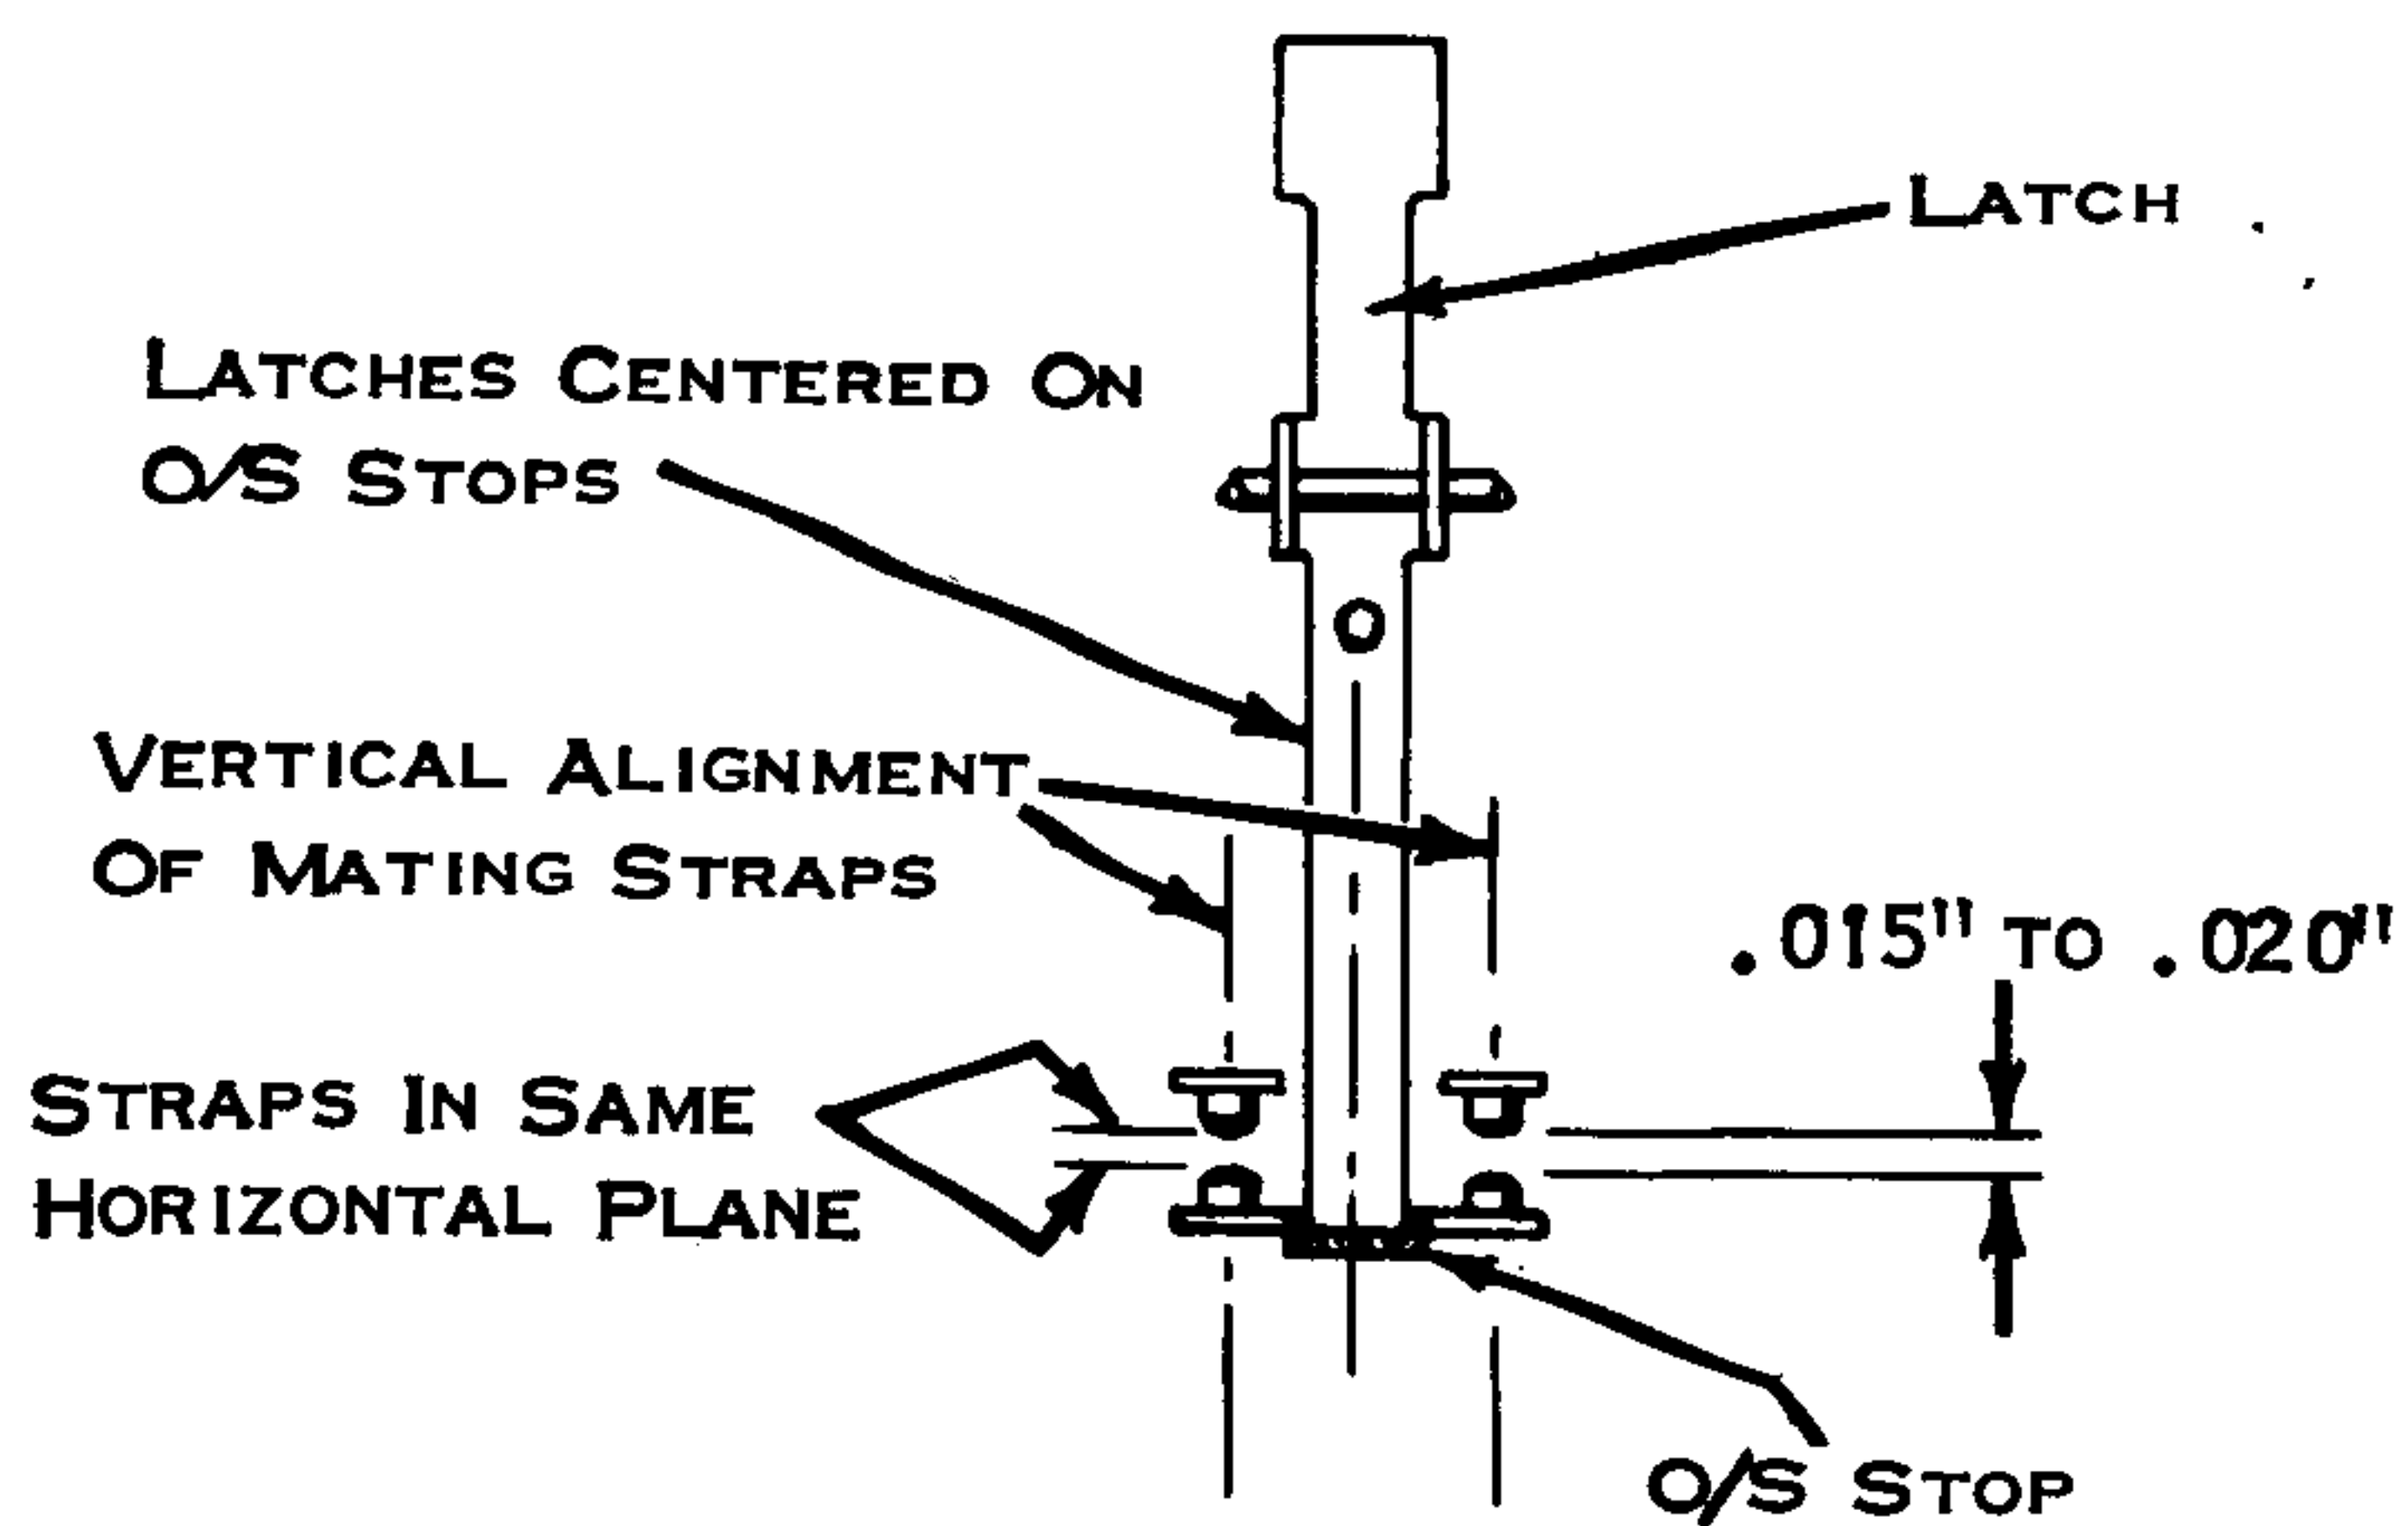
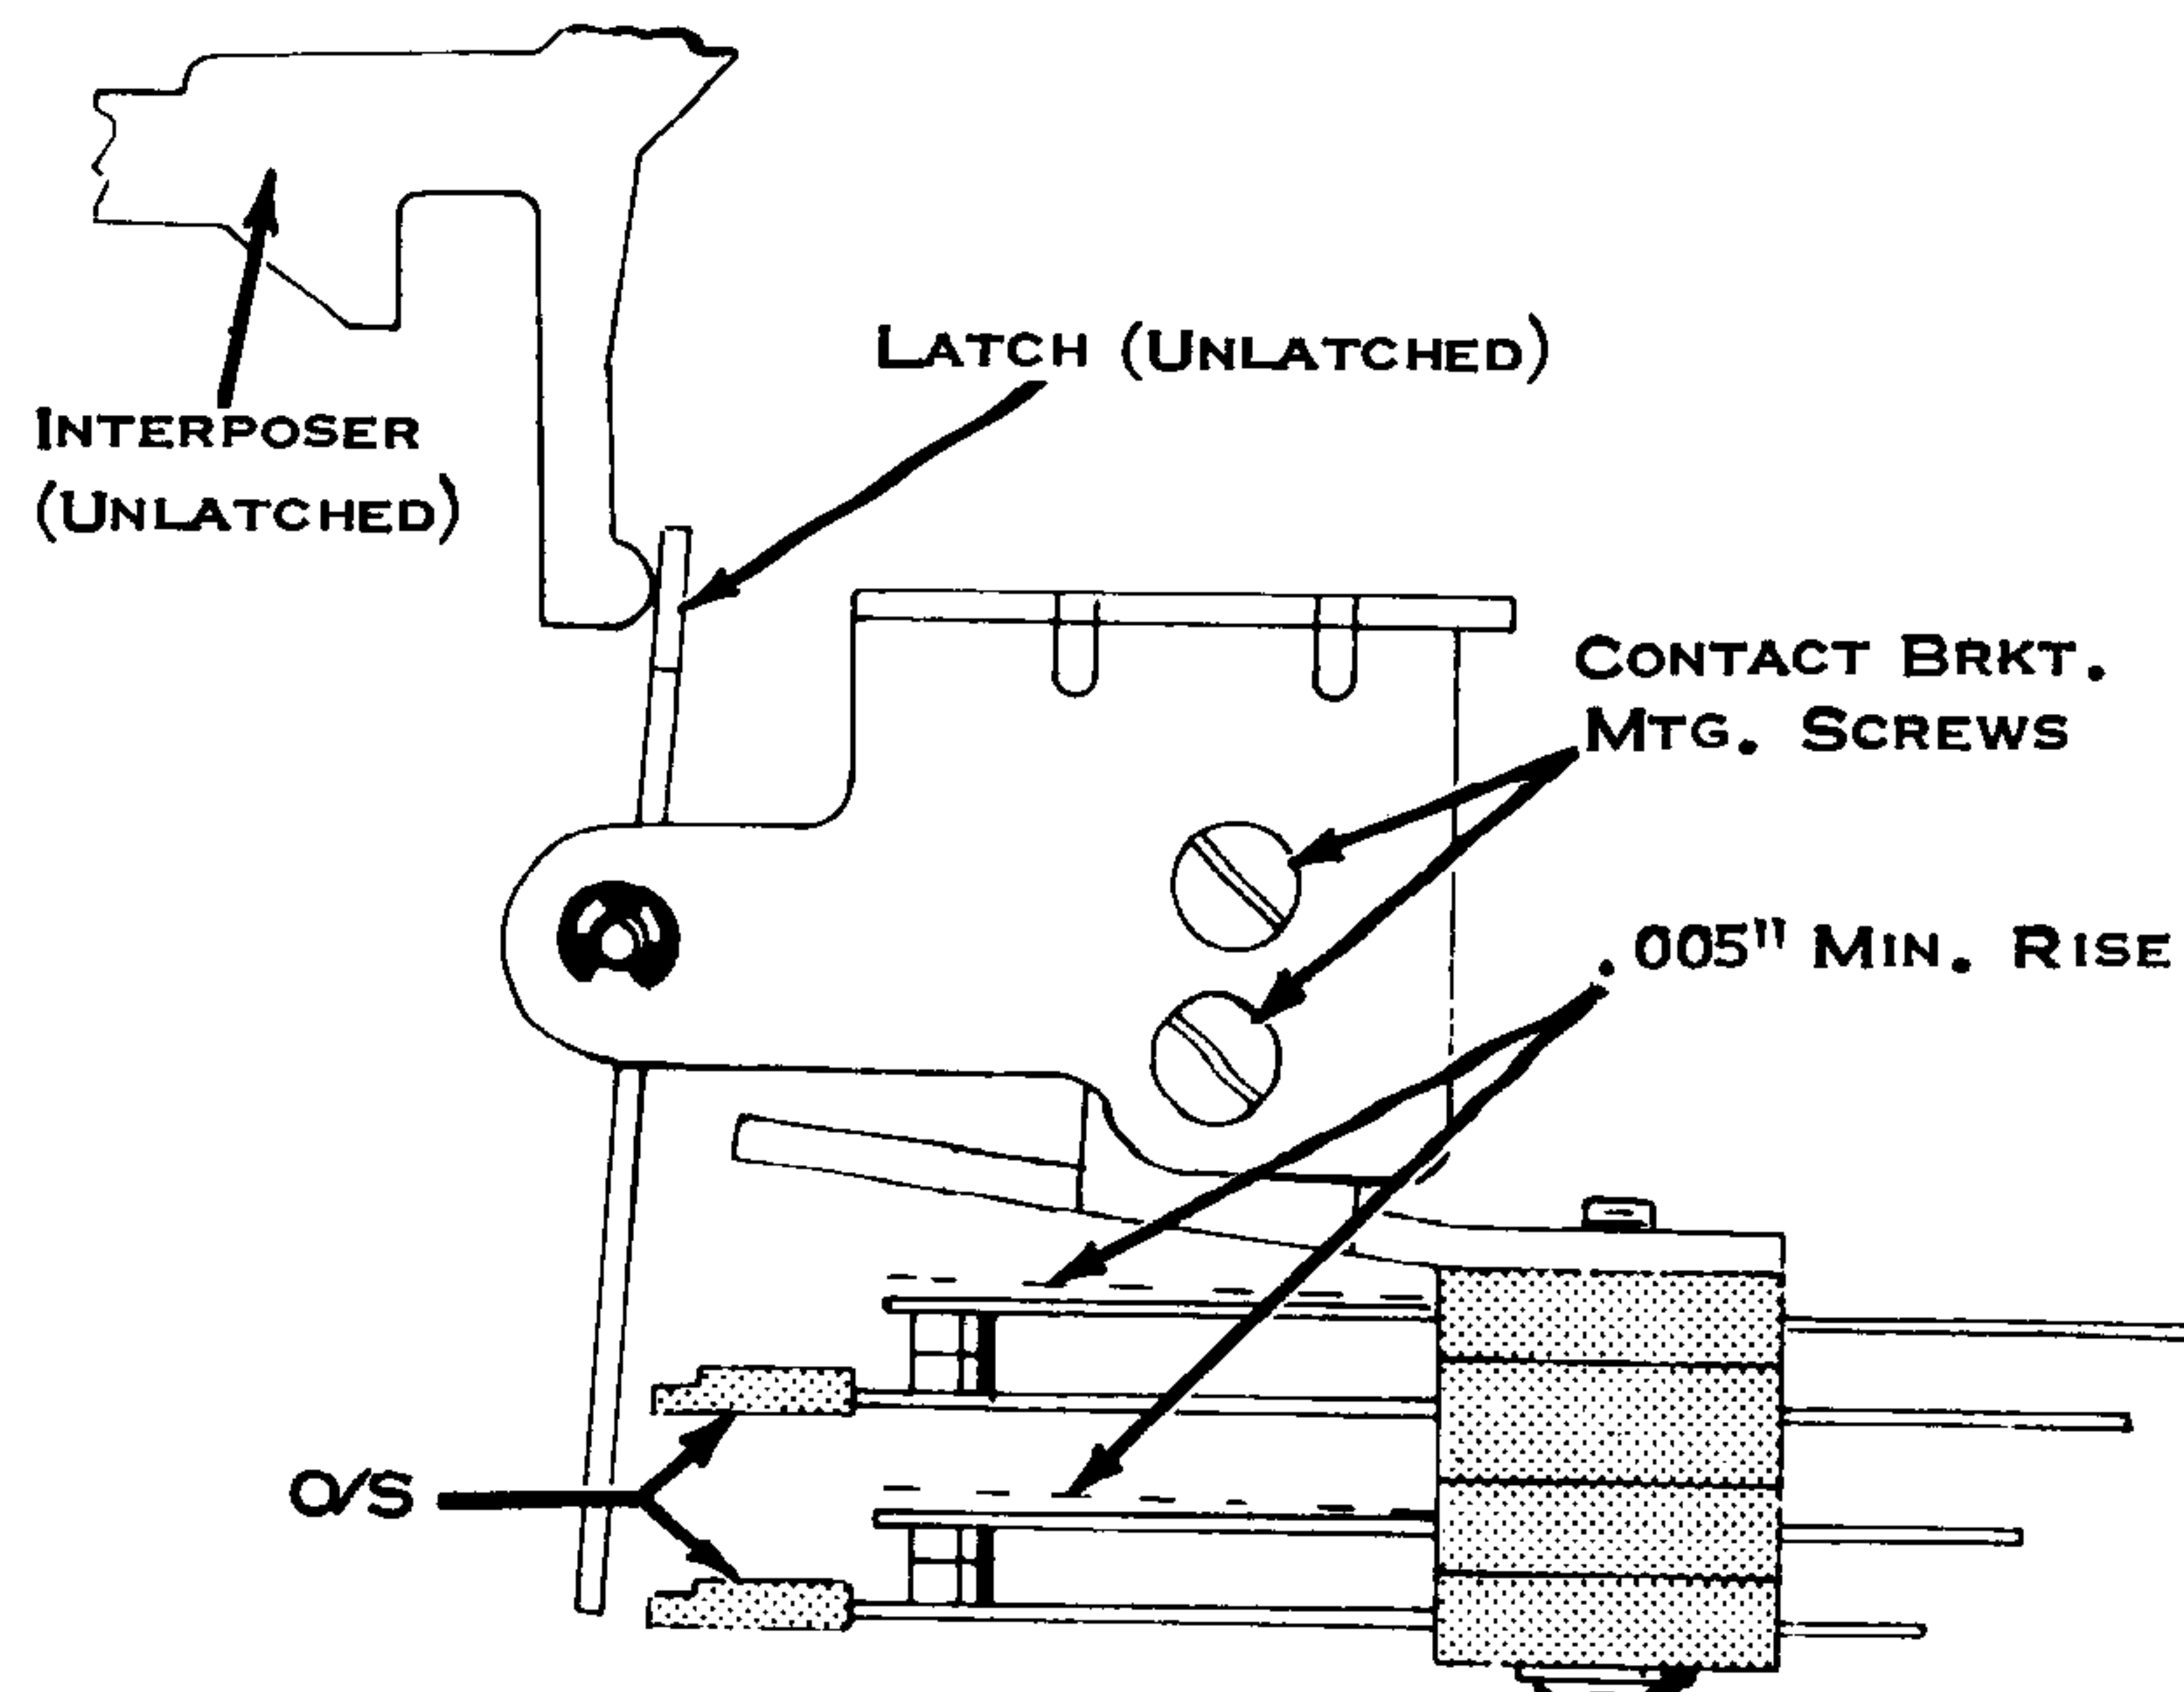

Figure 135. Contact Air Gap
Figure 136. N/O Contact Rise
1. Contact Strap Position (Fig. 135) - With the contacts latched, position the straps under the two mounting screws for the following conditions.
3. Normally Open Contact Rise (Fig. 136) - With the contacts unlatched, form the N/O straps for .005" minimum rise.
2. Contact Air Gap (Fig. 135) - Rotate the contact mounting bracket under its four screws for .015" to .020" contact air gap - see Fig. 136 for mounting screws.